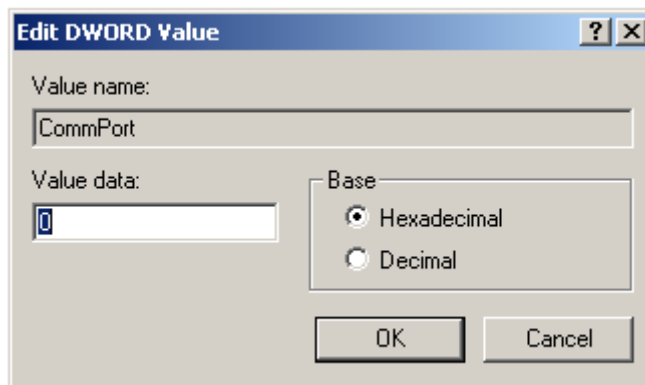

Figure 3, Edit DWord Value
11. Verify the Gas Cap Tester by clicking on "**Gas Cap Tester**" and double clicking on "**CommPort**". You should see the following dialog as shown in Figure 3.